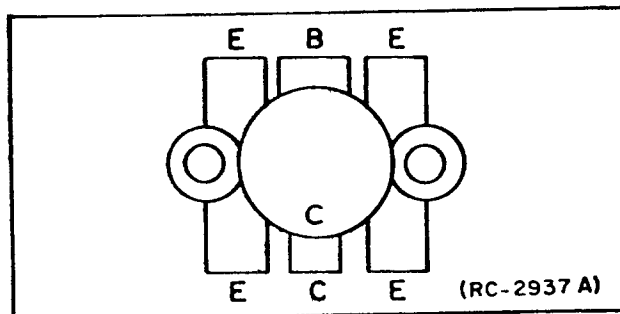

Figure 6 - Lead Identification
1. Trim the new transistor leads (if required) to the lead length of the removed transistor. The collector lead is identified by the smaller center lead (See Figure 6). The letter "C" on top of each transistor also identifies the collector.